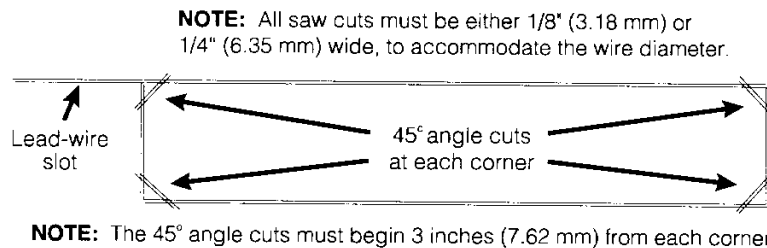

Figure 5. Saw cut layout
- Cut an additional 45° cut at each of the four corners of the rectangle, as shown in Figure 5, to prevent sharp, 90° angles of the concrete from damaging the loop-wire insulation.
Lay two or three turns of antenna loop wire in the saw cut as described below. Refer to the table in section 2.4.1 for exact wire length required, and Figures 5 and 6.